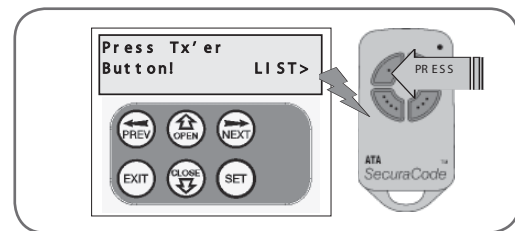

fig 37
3. Press transmitter once (Fig. 37).